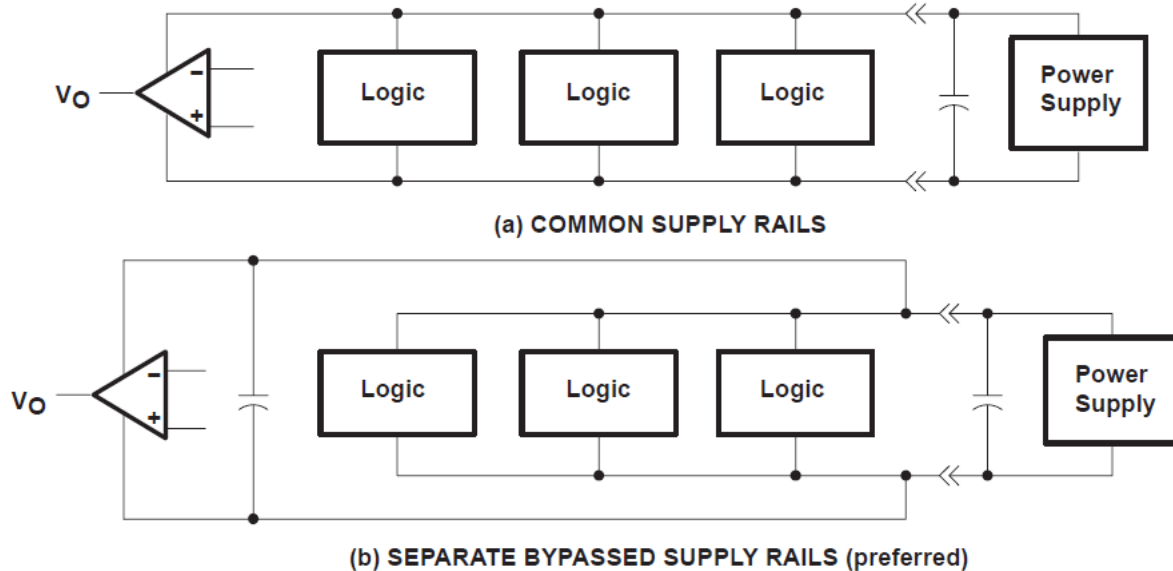

Figure 6-2. Common vs Separate Supply Rails
1. Power the linear devices from separate bypassed supply lines (see Figure 6-2); otherwise the linear device supply rails can fluctuate due to voltage drops caused by high switching currents in the digital logic